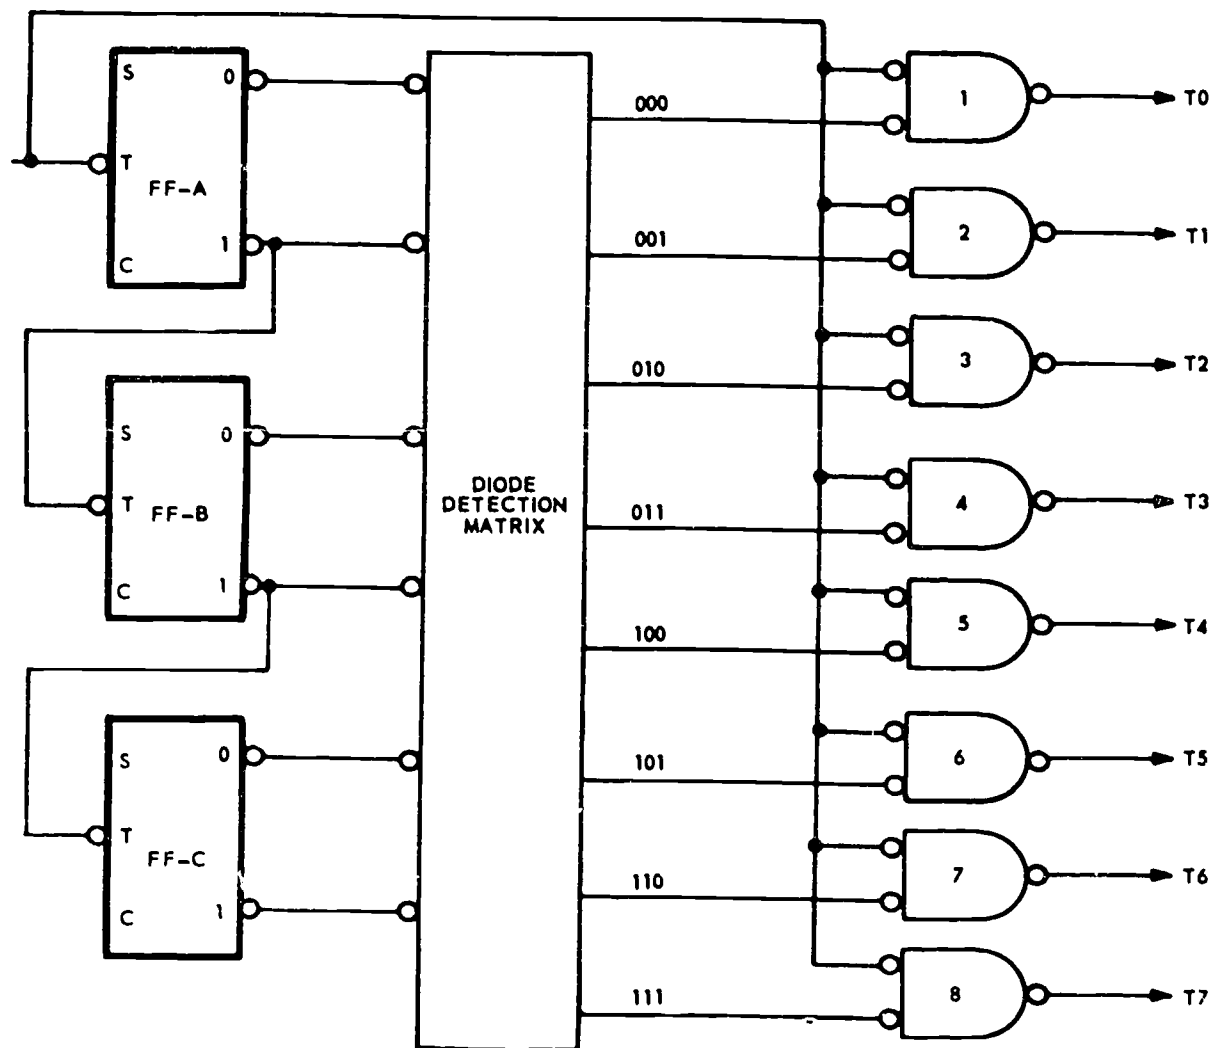

Figure 4-3. Time-Pulse generator.
If successive operations require groups of timing pulses, the flip-flop divider may also be used. One such case is a system that requires successive groups of eight timing pulses that are to be used in the assembly of a digital message. In this system, the basic timing pulses are fed as the input to a three-stage binary counter. The ONE and ZERO outputs of the counter are then fed to a diode count detection matrix. This particular arrangement is shown in figure 4-3. As the counter progresses through its counting from 000 to 111, each particular count is detected and fed to a control gate as a conditioning level. The original input timing pulses are also fed to the control gates. When a count of 000 is detected, AND-gate 1 is conditioned and passes the negative half of the timing pulse to input as T0 pulse. AND-gate 2 passes the timing pulse when the count
3. In figure 4-3, if all flip-flops are reset, how many trigger inputs to each of the three flip-flops are necessary to form T5?